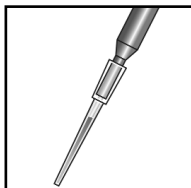

Figure 2
2. Depress the plunger on the minipet. Immerse the tip in the sample to be tested and release the plunger. A portion of the sample will be drawn into the tip (fig. 2).